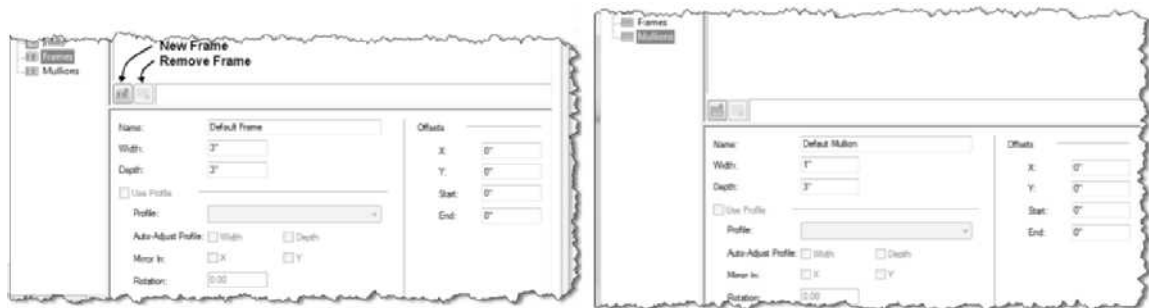

FIGURE 6.13 Setting the size of the frame and mullion
12. Choose the Frames category in the left pane. The Default Frame settings are shown in the lower-right pane and in Figure 6.13. You can modify the width and depth values or specify an AEC Profile to define the frame.
13. Choose the Mullions category in the left pane. The Width and Depth values of the mullion can be edited in the lower-right pane as shown at right in Figure 6.13.